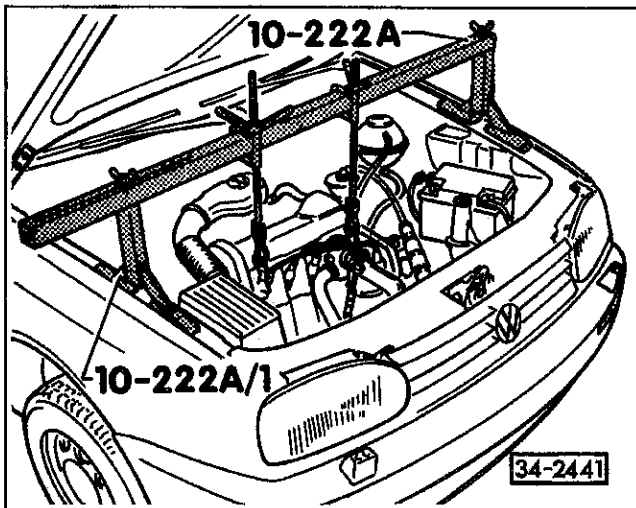

Fig. 14. Engine/transmission assembly being supported from above. Volkswagen special tools shown.
5. Support weight of engine/transmission assembly with appropriate engine lifting equipment. See Fig. 14.